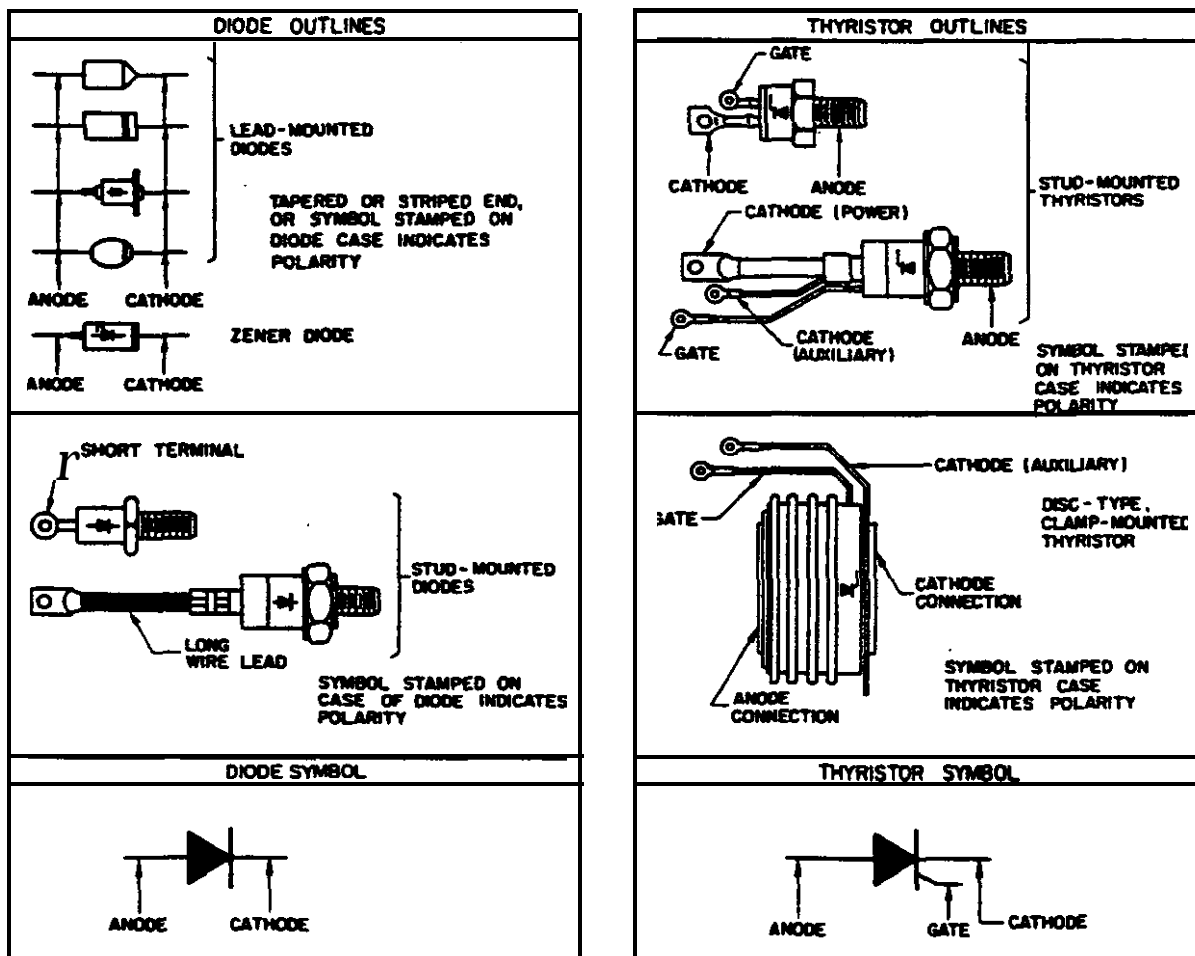

Figure 7-1. Semiconductor outline Drawings
7.8 Semiconductor device outlines for diodes and thyristors (**SCR's**) used in this rectifier are shown in Figure 7-1. The outlines are intended to aid servicing personnel in identifying semiconductor terminations during troubleshooting or replacement procedures.